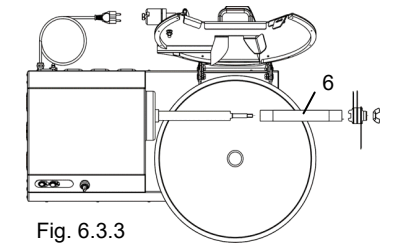

Fig. 6.3.3
- Turn the tank "5" counter-clockwise (Fig. 6.3.3) in order to release it from its seat
- After having followed the instructions described in Par. 6.4 remove the tube Ref. 6 Fig. 6.3.3 taking care to avoid impacts that might make it oval-shaped or ruin the edge.